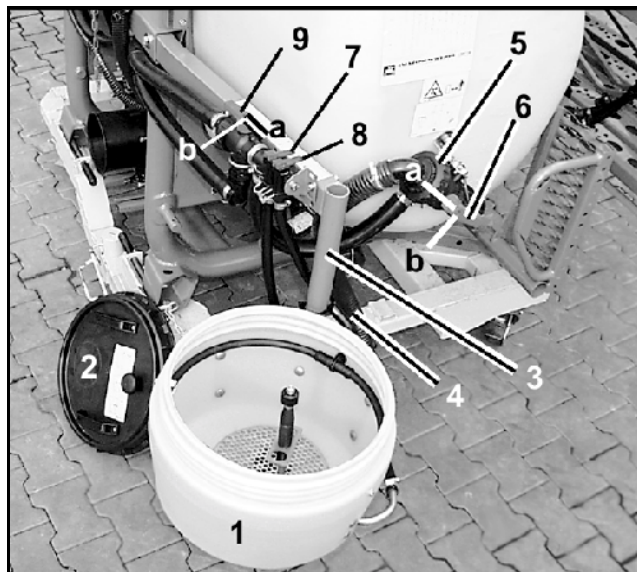
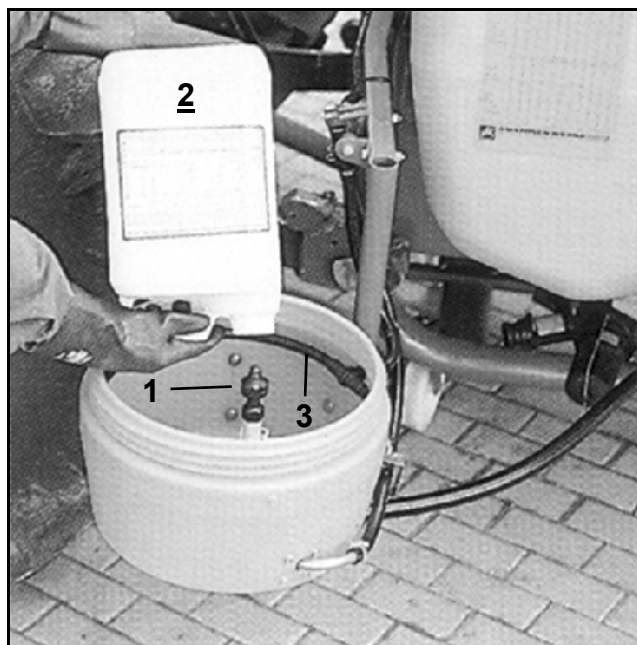

Fig. 165
Fig. 166
- Open the single tap (Fig. 165/ 7) for the tap group of the can wash nozzle (Fig. 165/ 1).
- Swivel three-way tap (Fig. 165/ 9) to position "a".
- Slide the canister (Fig. 166/ 2) or another container over the can wash nozzle and press downwards for at least 30 sec. Rinse the canister with the aid of the rotating canister flushing nozzle.
- For rinsing the induction bowl via the closed circular pipe line (Fig. 166/3) open the single tap (Fig. 165/8).
- Swivel the three way tap (Fig. 165/ 6) to position "a" and suck the liquid into the spray agent tank. (Before, remove the lid of the induction bowl.)
- Shut off single taps (Fig. 165/ 7, Fig. 165/ 8) for the closed circular pipe line and the canister flushing.
- Shut off three way tap (Fig. 165/ 6) (position "b").
- Swivel the three way tap (Fig. 165/ 6) to position "b".
- Swivel three way tap (Fig. 165/ 9) to position "a".
- As soon as sufficient water is in the spray agent tank, swivel the three way tap (Fig. 165/ 9) to position "b".